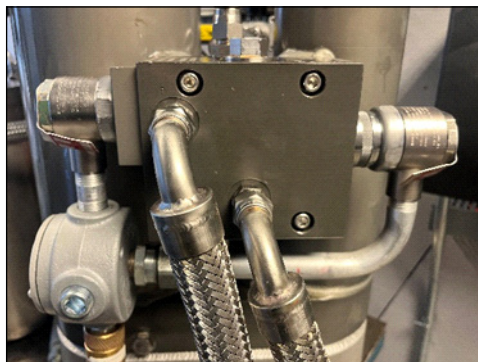

Figure 18. Reattach Solenoid/Conduit to Inlet/Outlet Valves
1. Fit the solenoid bodies over the stems of both valves and re-install the solenoid valve lock nuts on both valves (see Figure 18). Tighten lock nuts until coils are fully engaged with the valve body.